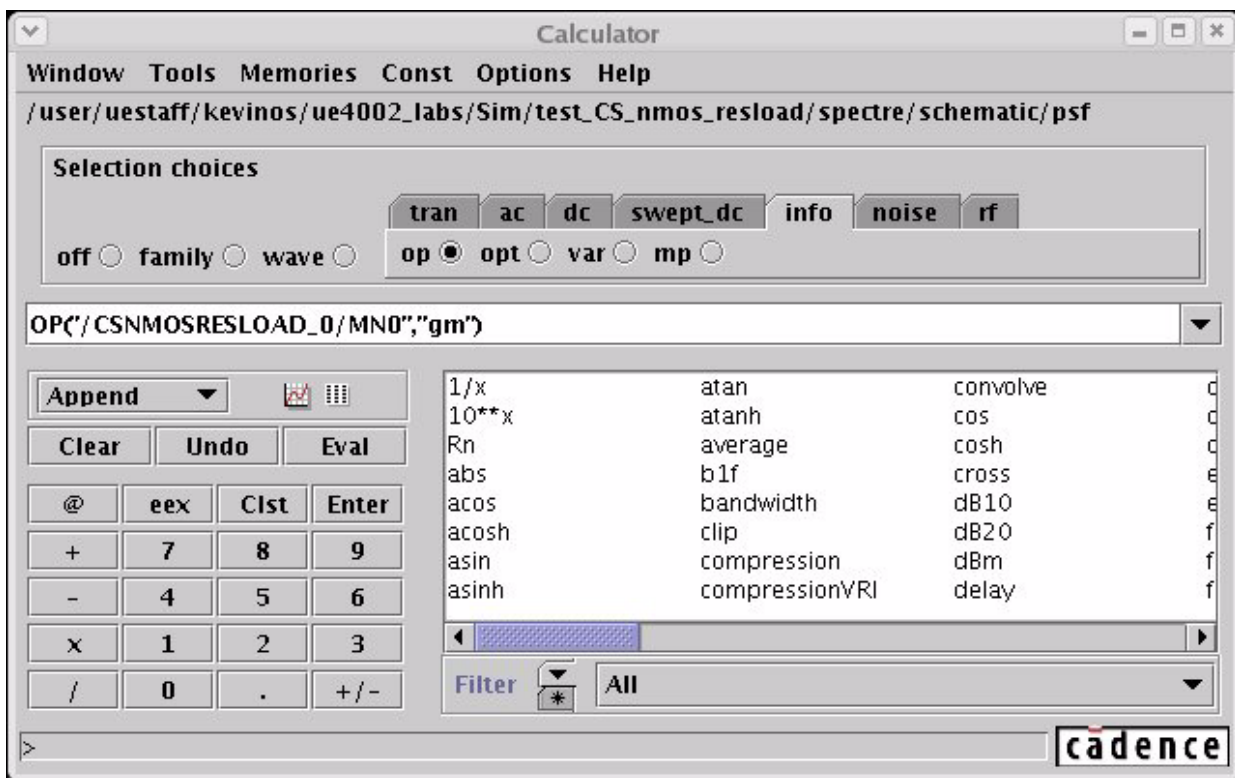

Figure 31: Calculator window
- [6] In the calculator window which appears select info and then select op (Figure 31). A Select instance window appears.*
(or similar, depending on your instance name), now appears in the buffer field (Figure 31).